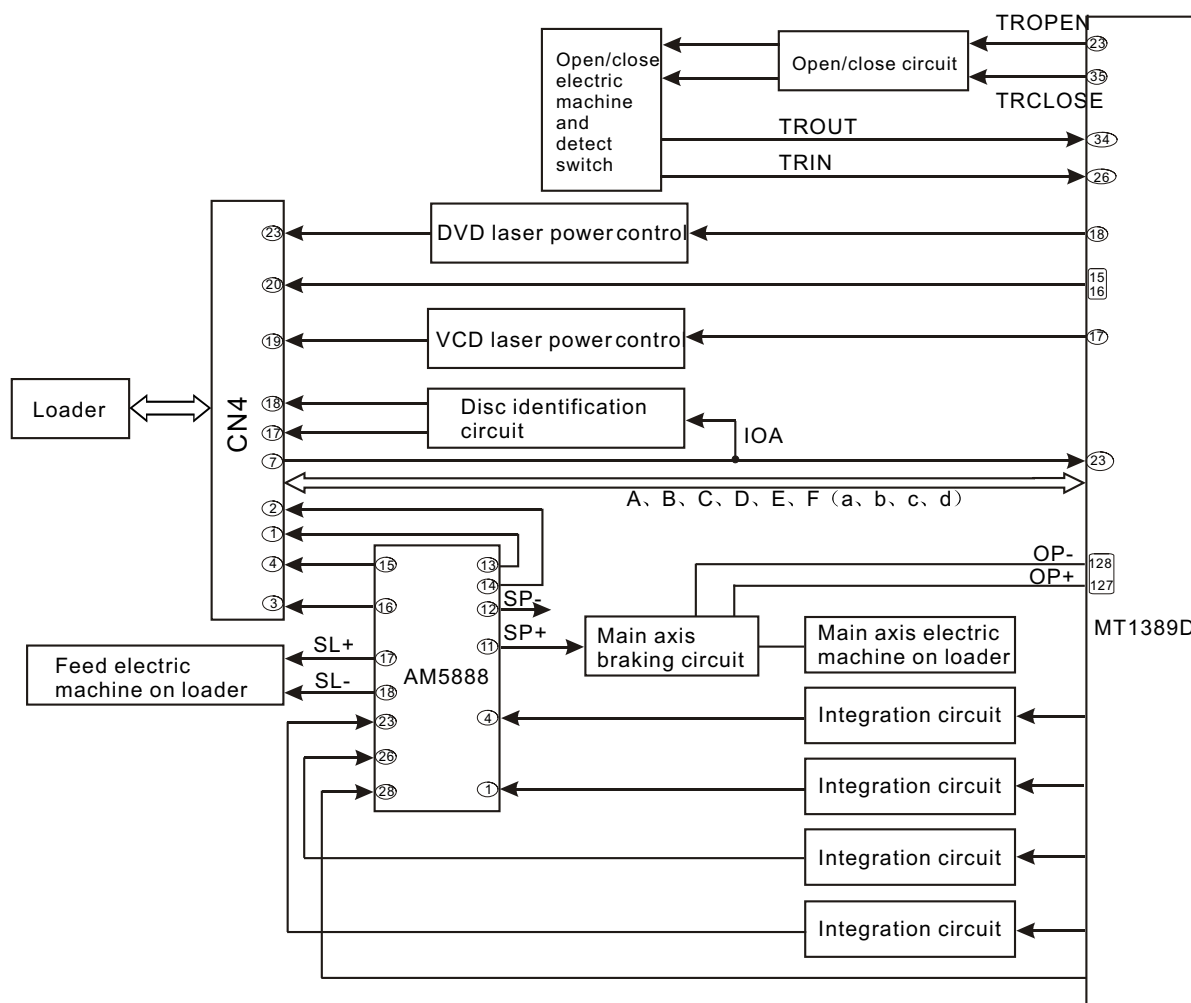

Figure 3.2.2.1 Servo circuit block diagram
1. DK1211S adopts SANYO HD850 loader and MTK decode solution (MT1389D+FLASH (16M)+SDRAM (64M)). Its servo circuit is mainly composed of front signal processing and digital servo processing, digital signal processing IC MT1389D and drive circuit AM5888, in which MT1389D is also the main part of decode circuit, shown in the figure 3.2.2.1: